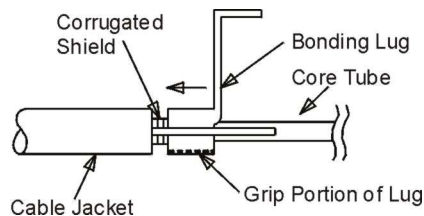

Figure 8. Install Bonding Lug
6. Install bonding lug and clip as per Figures. 8 and 9.